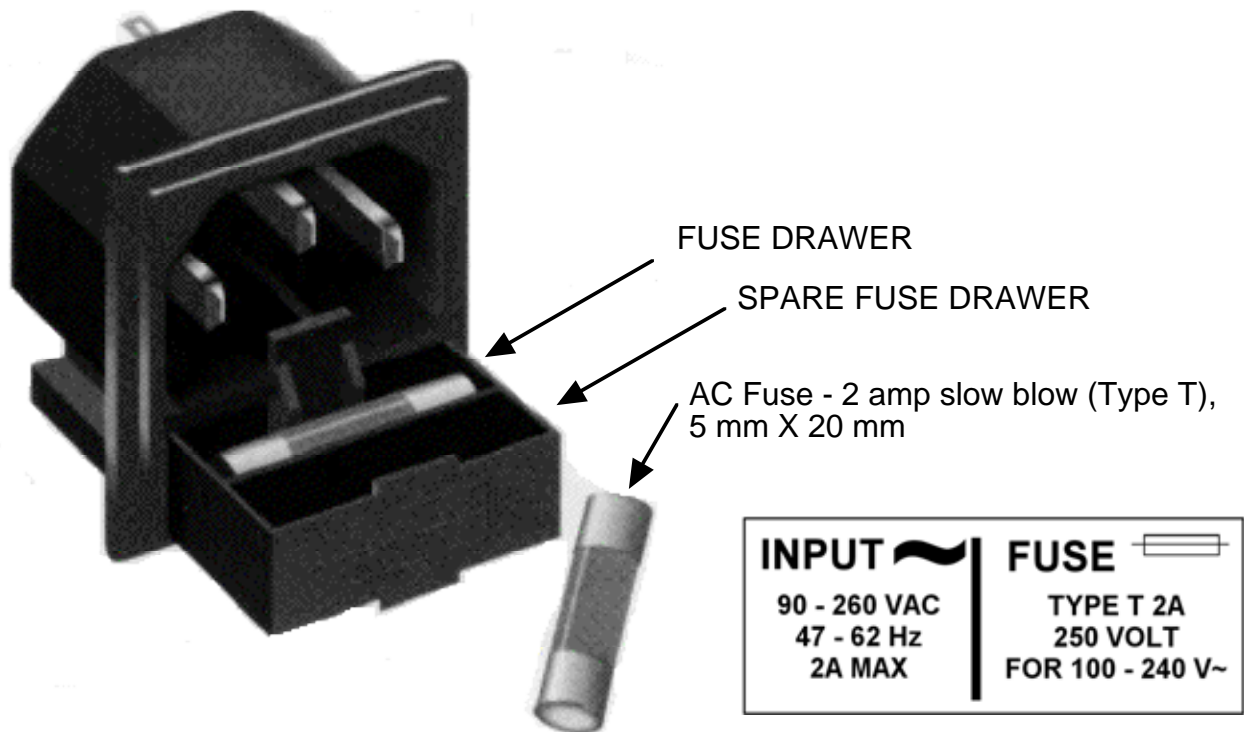

FIGURE 2.4 Fuse Location and Spare Fuse
16. AC Fuses - The fuse is a 5 mm X 20 mm, 2 amp slow blow (Type T) and is inserted in the far slot in the drawer below the AC input as shown in Figure 2.4. There is a spare fuse in the near slot. If a fuse continues to open, the power supply is most likely defective.